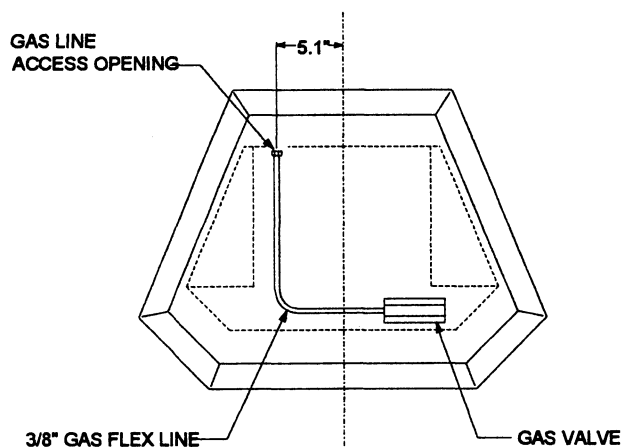

Figure 8b
2. Install the piping behind the stove and enter the pedestal through the removable rear cover (see Figure 8b).